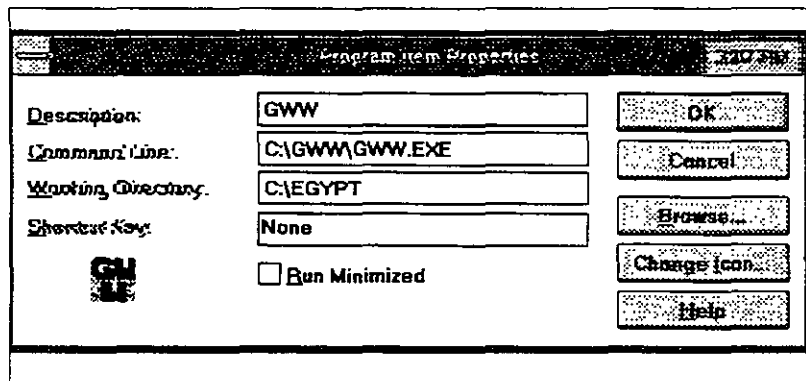

Figure 1-2
- 4.6. In the Working Directory box, type the name of the directory where the program files (data base file) for the GWW application are located and where new files will be placed. The directory you specify here will become the current directory while the application is running. In Figure 1-2, you will notice that a directory EGYPT has been created to accept all files that may be created when running the GWW software.